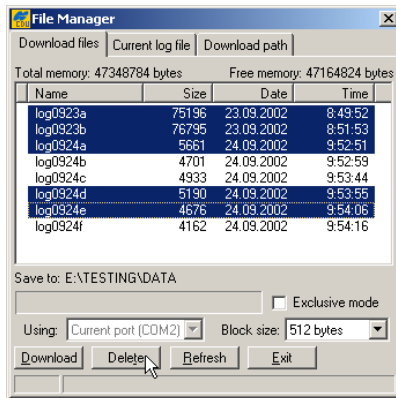

Figure 3-19. Delete Files
4. On the *Download files* tab, select the file(s) you want to delete (Figure 3-19).
5. Click **Delete** (Figure 3-19). Click **Yes** at the confirmation.